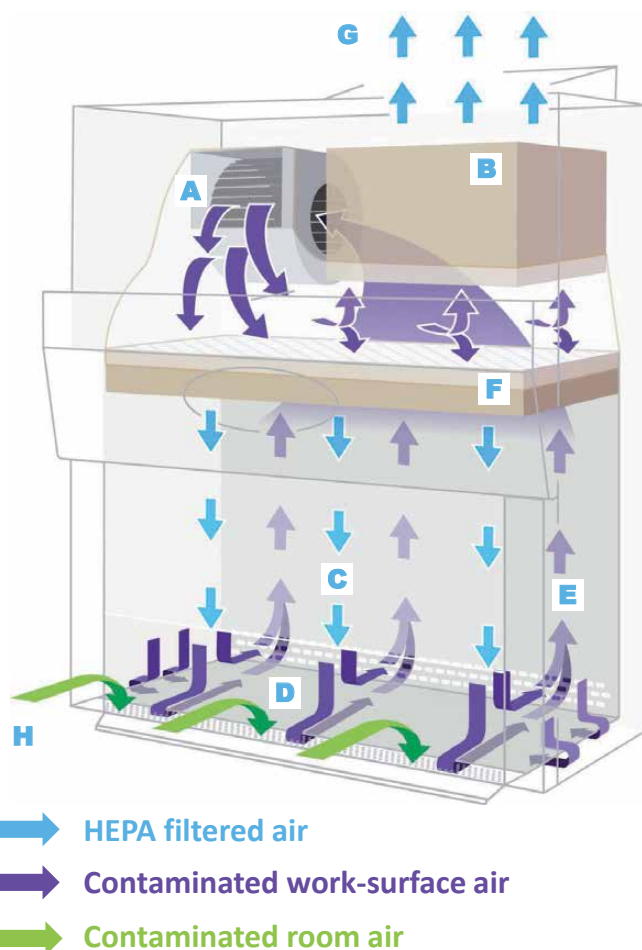

Figure 2: Class II Type A2 BSC airflows and filters
The most widely used type of Class II BSC, the Type A2 – see Figure 2 – uses a blower [A] to circulate air in the cabinet – through the main downflow HEPA or ULPA air filter [F], down through the work space [C], through the front and rear grills in the work surface into the bottom of the cabinet [D]. Additional air [H] is pulled through the front grill from the lab into the bottom of the cabinet [D] underneath the work surface. The combined airstreams are drawn up the back of the cabinet [E] to the top again. At that point, some of the air is recirculated through the downflow filter [F], with the rest of the air [G]
**Figure 2: Isolator milling – the milling head is contained within the isolator, with the motor and controls mounted externally (photo Hanningfield Process Systems)**